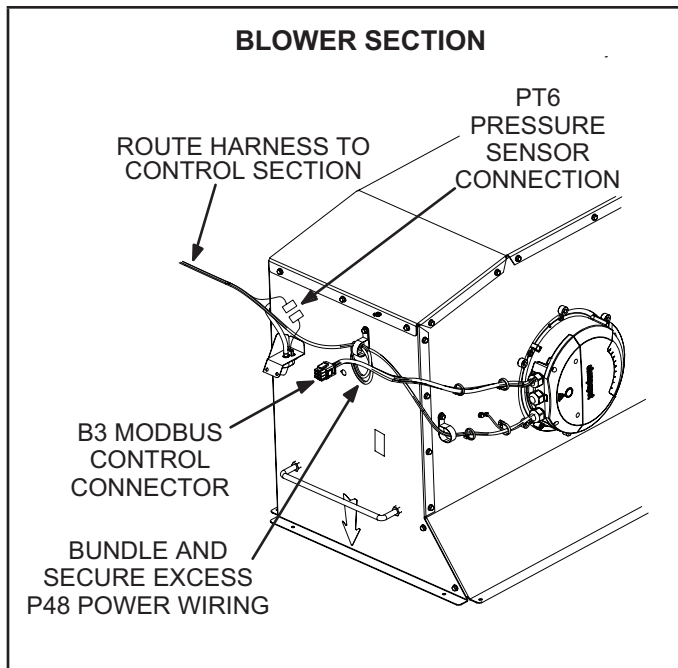

FIGURE 2
- 3 - Disconnect B3 Modbus connection and PT6 connection (LGM only) in the blower section. See figure 2.
- 13 - Connect B3 Modbus and PT6 connections as shown in figure 2.